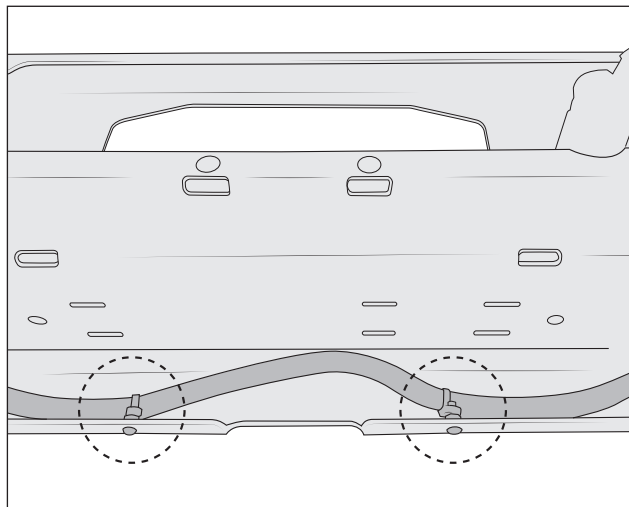

Figure 15
7. The factory harness will continue along the bottom edge of the center section. Install two of the supplied M6x20 button head bolts and nuts in the center positions. Supplied stud mounted zip ties will be used to secure the factory harness to these bolts (fig. 15). Be sure to allow for hitch assembly clearance.